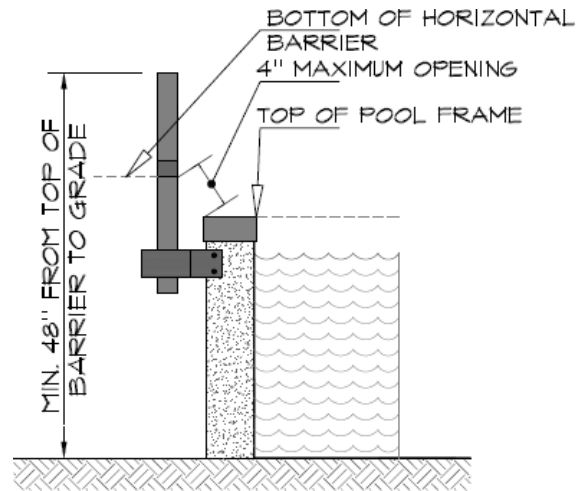
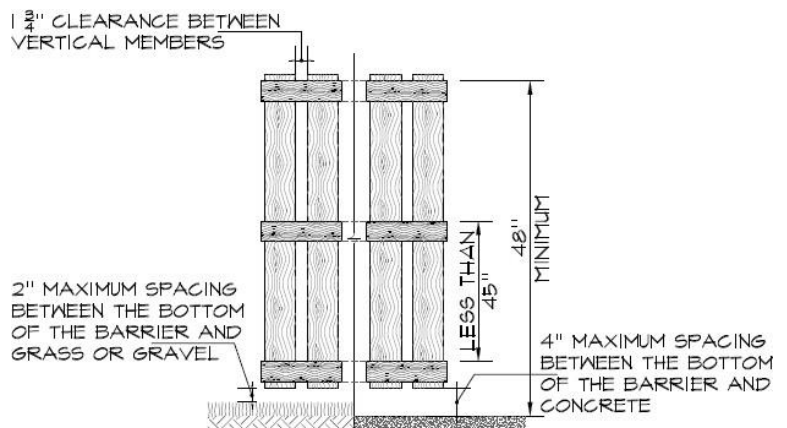

Figure 2
Figure 3
1. The top of the barrier shall be at least 48" above grade, measured on the side of the barrier which faces away from the swimming pool. The maximum vertical clearance between grade and the bottom of the barrier shall be 2 inches for grade surfaces such as grass, mulch, and gravel, and 4" for solid surfaces such as concrete, **See Figure 3**. Where the barrier is mounted on top of the pool structure, the maximum vertical clearance between the top of the pool structure and the bottom of the barrier shall be 4 inches. **See Figure 2**.
See Figure 3.
of Figure 2